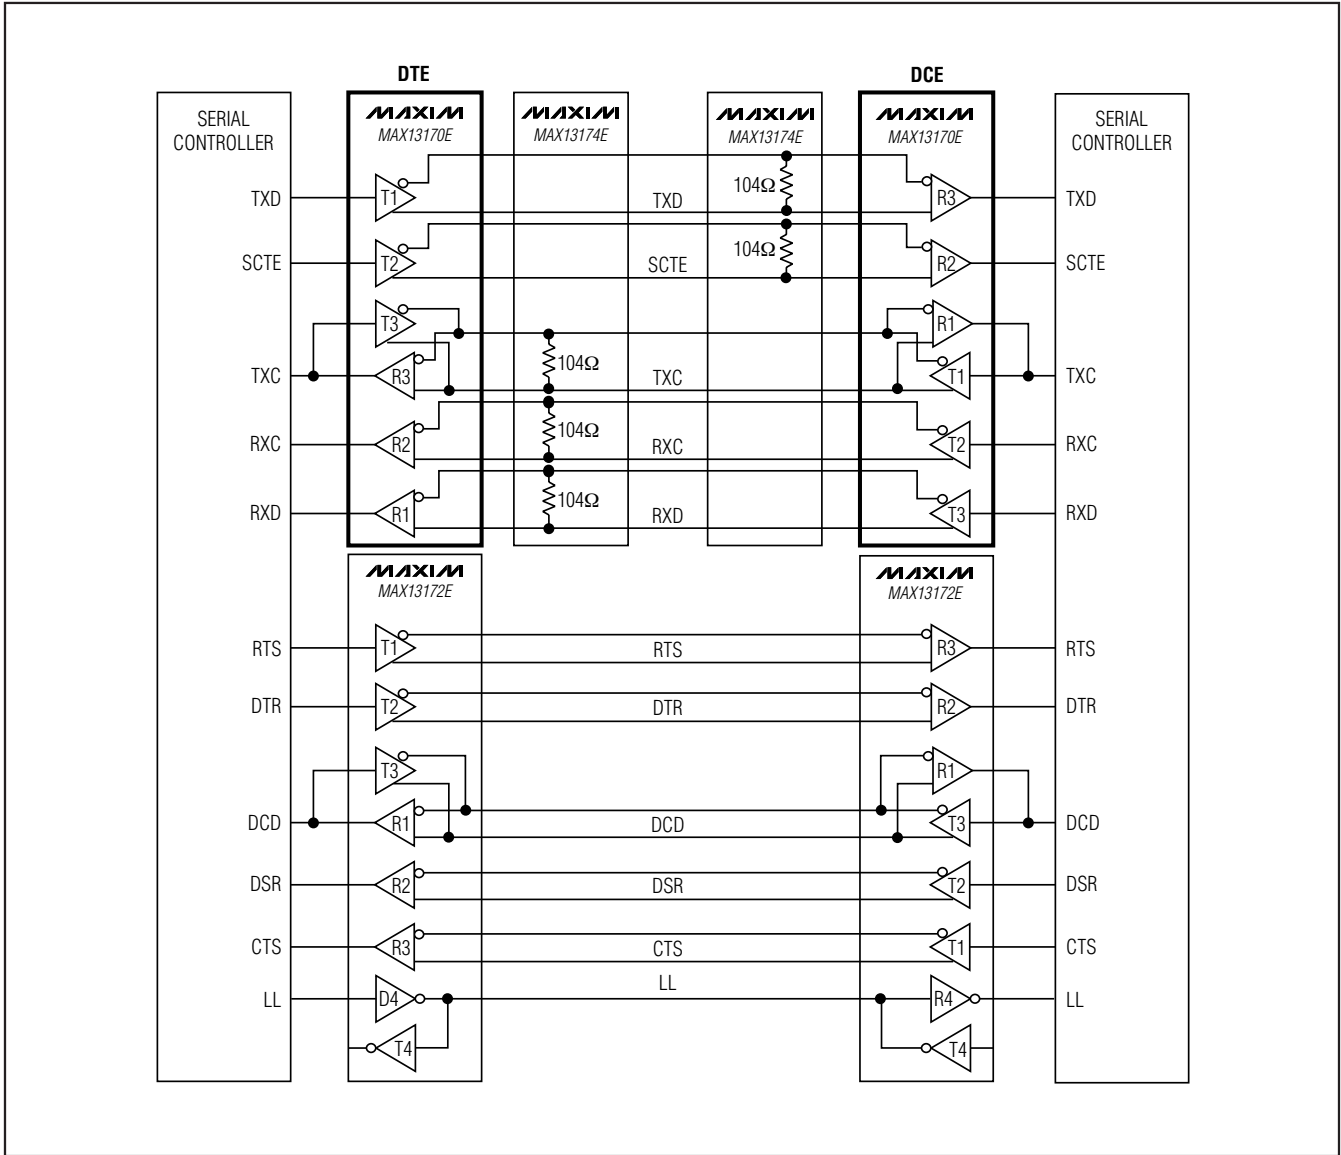

Figure 21. DCE-to-DTE X.21 Interface
A complete DTE-to-DCE interface operating in X.21 mode is shown in Figure 21. The MAX13170E is used to generate the clock and data signals, and the MAX13172E generates the control signals and local loopback (LL). The MAX13174E is used to terminate the clock and data signals to support the V.11 protocol for cable termination. The control signals do not need external termination.